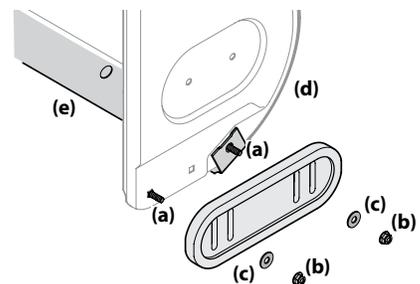

Figure 2-45
1. Using the two carriage bolts (a) and hex flange nuts (b) and flat washers (if equipped) (c), secure the skid shoe to the auger housing (d). Hand tighten hex flange nuts. See Figure 2-45.